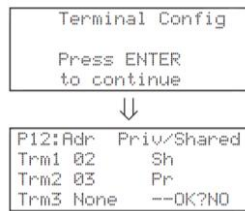

Figure 3—Changing unit ID
2. Press the “Setup” button: the screens will be displayed in sequence, see **Figure 3** for detail.